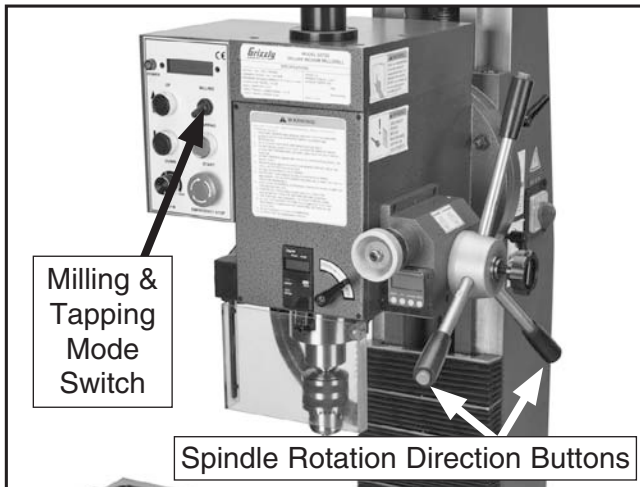

Figure 9. Tapping controls.
1. Move the MILLING & TAPPING mode switch (see **Figure 9**) to the TAPPING position.